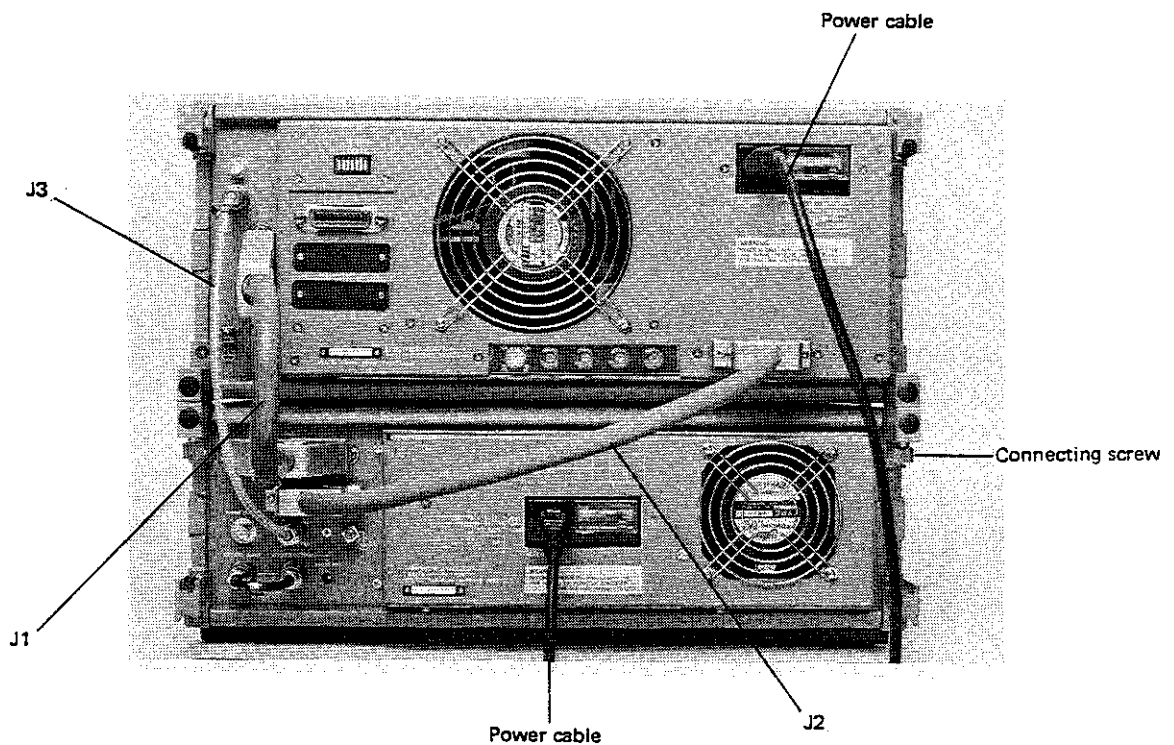

Fig. 2-2 Power and Signal Connections on the Rear Panels
- (1) Mount the display unit (with the CRT) directly onto the input unit.
- (2) Pull the display unit forward until the joints engage.
- (3) Push the display unit back until the front surfaces of the two units are aligned. Use a coin to fasten the two joint screws on the back of the analyzer.
- (4) Make electrical connections between the two units with the three interconnection cables supplied with the analyzer.
- (5) Three connectors J1, J2, and J3 are provided on the rear of each unit. Connect them with the corresponding interconnection cables (J1 to J1, etc.) as shown in Figure 2-2. Use stoppers and screws when fixing the cable to the connectors, J1 and J2 respectively.
- (1) Make sure that the POWER switch on the front panel of the RF unit is at the STANDBY position.
- (2) An AC LINE connector is provided on the rear panel of each unit. Plug the female ends of the supplied power cables into the corresponding AC LINE connectors (see Figure 2-2).
- (3) Power cable